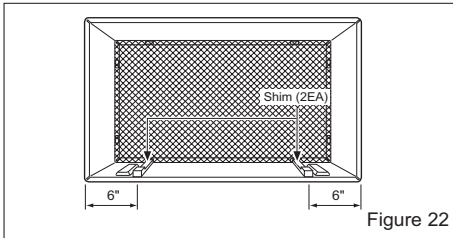

Figure 22
- 7** To achieve rearward slope for unit draining, remove the backing from the 11-13/16" shim strips and attach them as shown below in Figure 22. The higher portion of shim is to be placed in front of the rib on the base of wall sleeve.